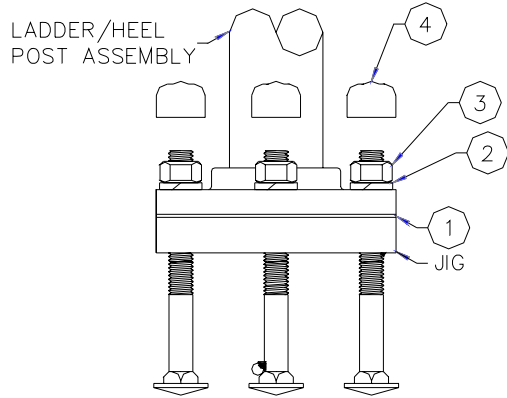

FIG. 7
5. Install Ladder Assembly and Heel Post Assembly with hardware to respective jigs according to Fig. 7. Make sure gaskets are in place. Hand tighten only.